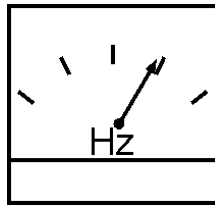

Figure 46. Frequency Meter (Hz)
11. The generator's frequency meter (Figure 46) should be displaying the 60 cycle output frequency in **HERTZ**.